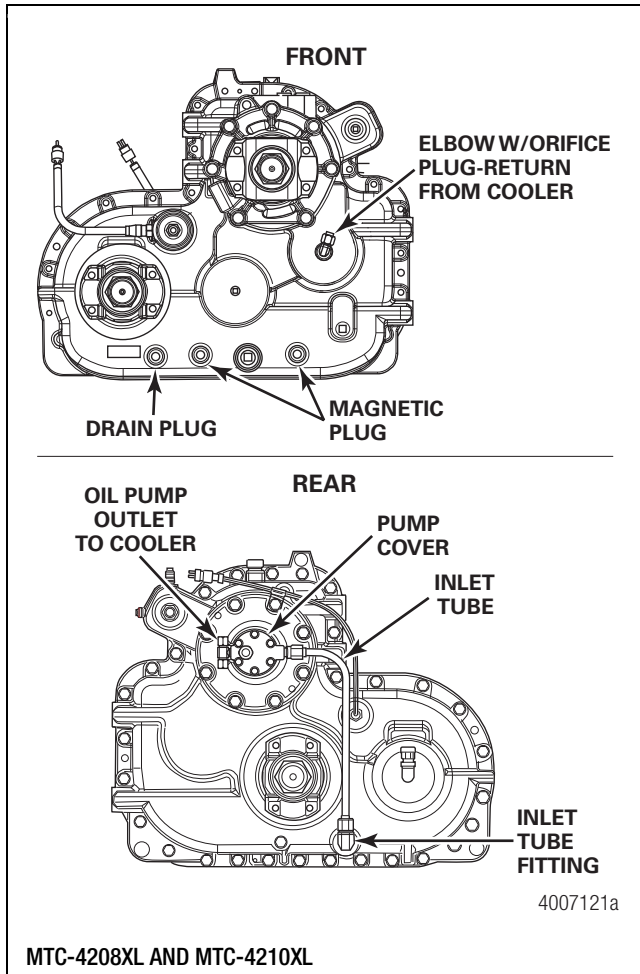

Figure 8.2
1. Disconnect the loop line on top of the transfer case connecting the pump exit and return ports on the transfer case. Figure 8.1, Figure 8.2.
2. Install the cooler inlet line at the pump outlet. Connect the cooler outlet line to the front idler bearing orificed elbow. Figure 8.2 and Figure 8.3.